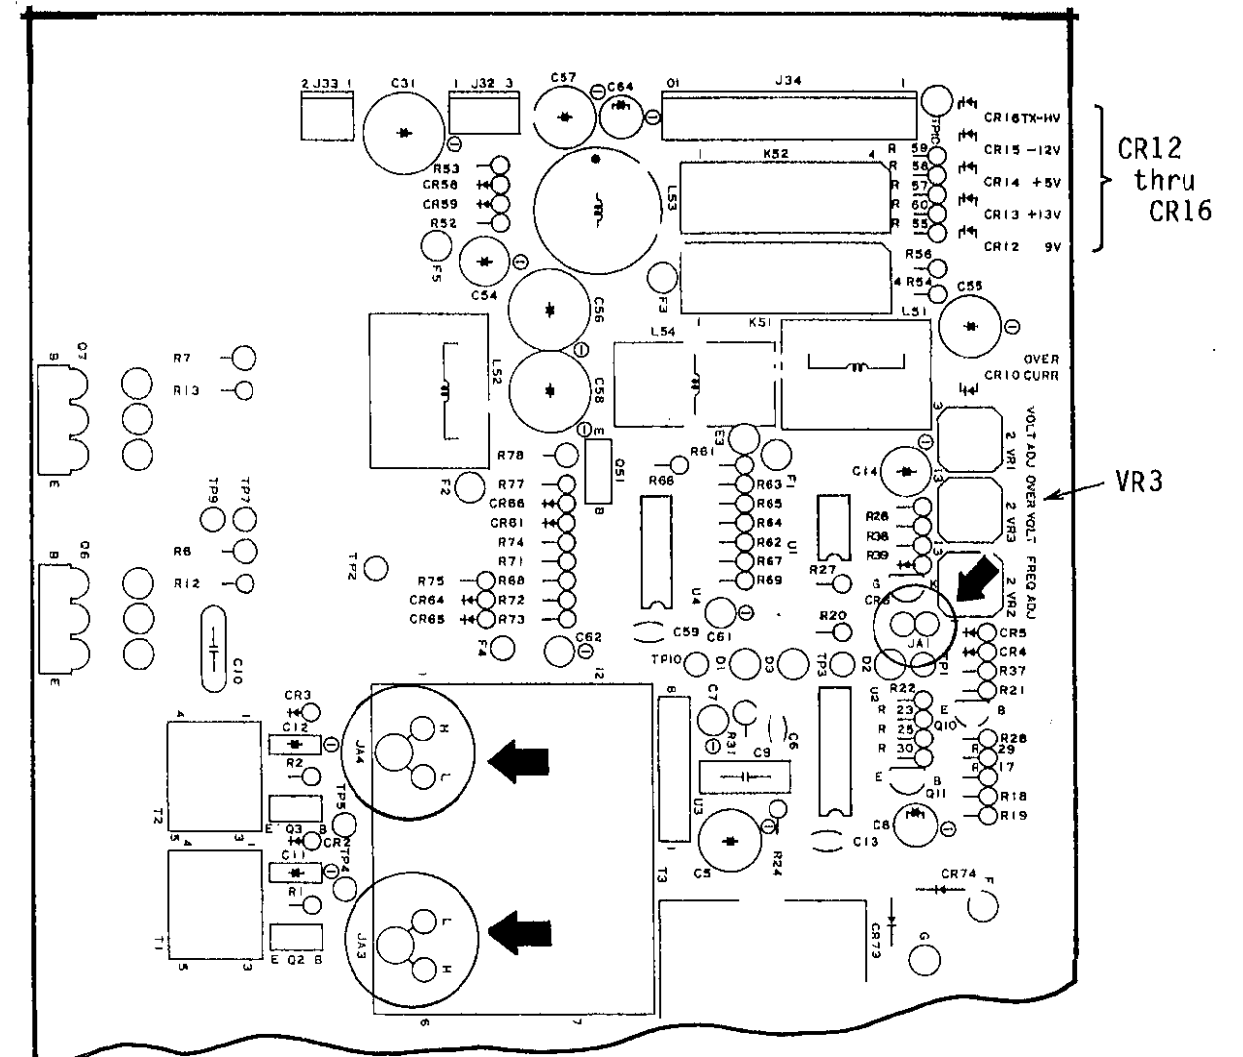

Fig.5 POWER SUPPLY Board (03P5900, Soldering Side)
- 1) Turn VR3 on the POWER SUPPLY board (03P5900) fully CW. See Fig.5.
- 3) Turn VR3 CCW little by little until the inverter stops oscillation, and switch off the radar. (CR12 thru CR16 on the POWER SUPPLY board go off at the moment the inverter oscillation stops. See Fig.5.)